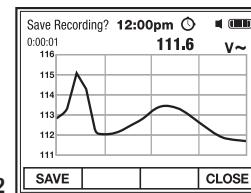

Fig. 12
- Press the F1 **SAVE** soft key to exit and save the recording (Fig. 12).
- Press the F4 **CLOSE** soft key to exit without saving (Fig. 12).